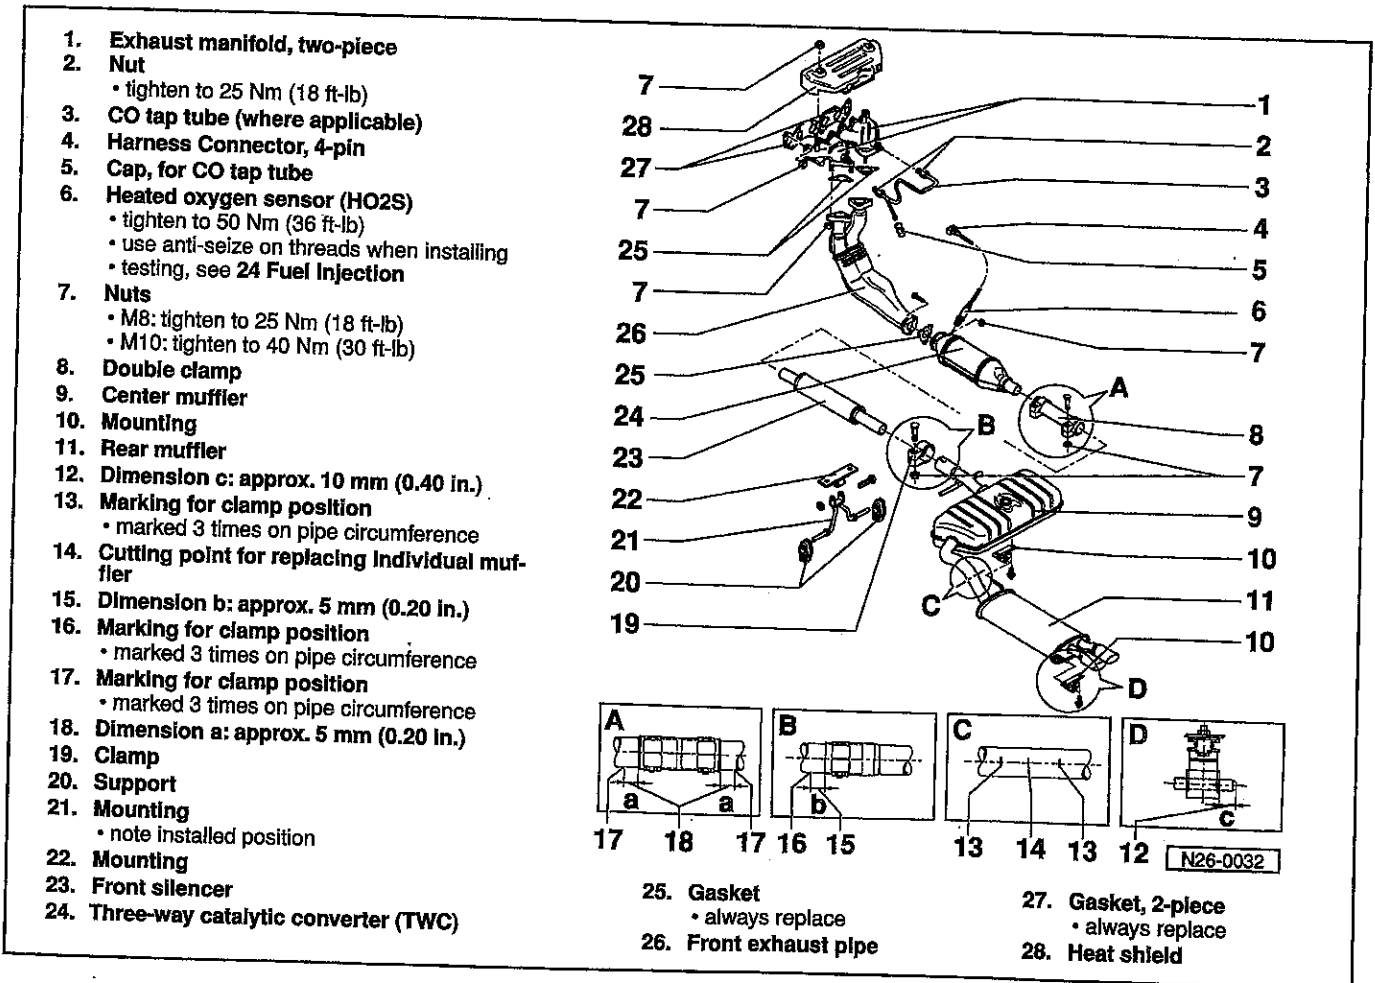
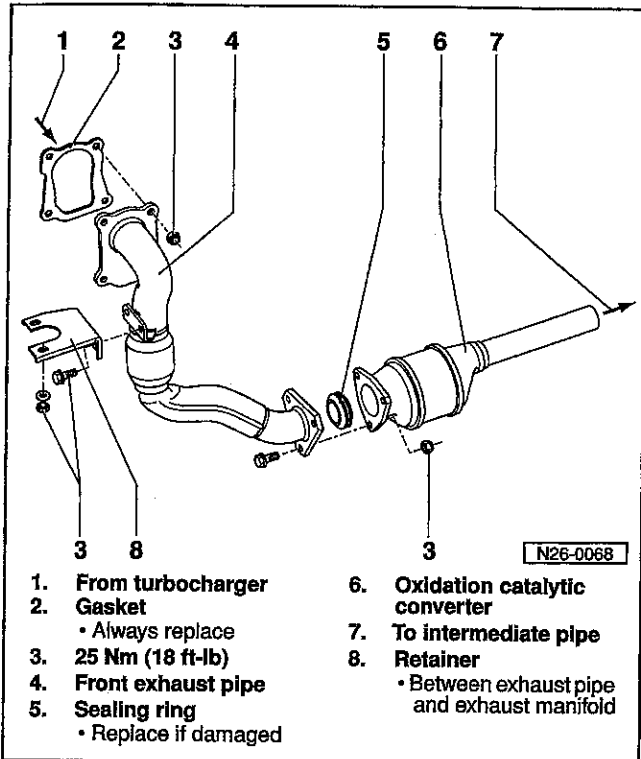

Fig. 3. Exhaust system for AAA (2.8 liter) 6-cylinder engine.
Fig. 4. Front section of exhaust system for AAZ (1.9 liter) 4-cylinder diesel.
1. Connect the scan tool to the vehicle data link connector, (DLC), below the heater controls as shown in Fig. 4, given earlier. The scan tool will be powered up when plugged into DLC. Turn the key to the on position, but do not start the engine. Observe the following sequence in the scan tool display window.
Fig. 1 and Fig. 2 show the exhaust system used on the ABA (2.0 liter) 4-cylinder engine. Fig. 3 shows the exhaust system used on the AAA (2.8 liter) 6-cylinder engine. Figs. 4–6 show the exhaust systems used on the AAZ and AHU (TDI) diesel engines. Use these illustrations as a guide for removal and installation. Tightening torques and other relevant installation information are given in the illustrations.